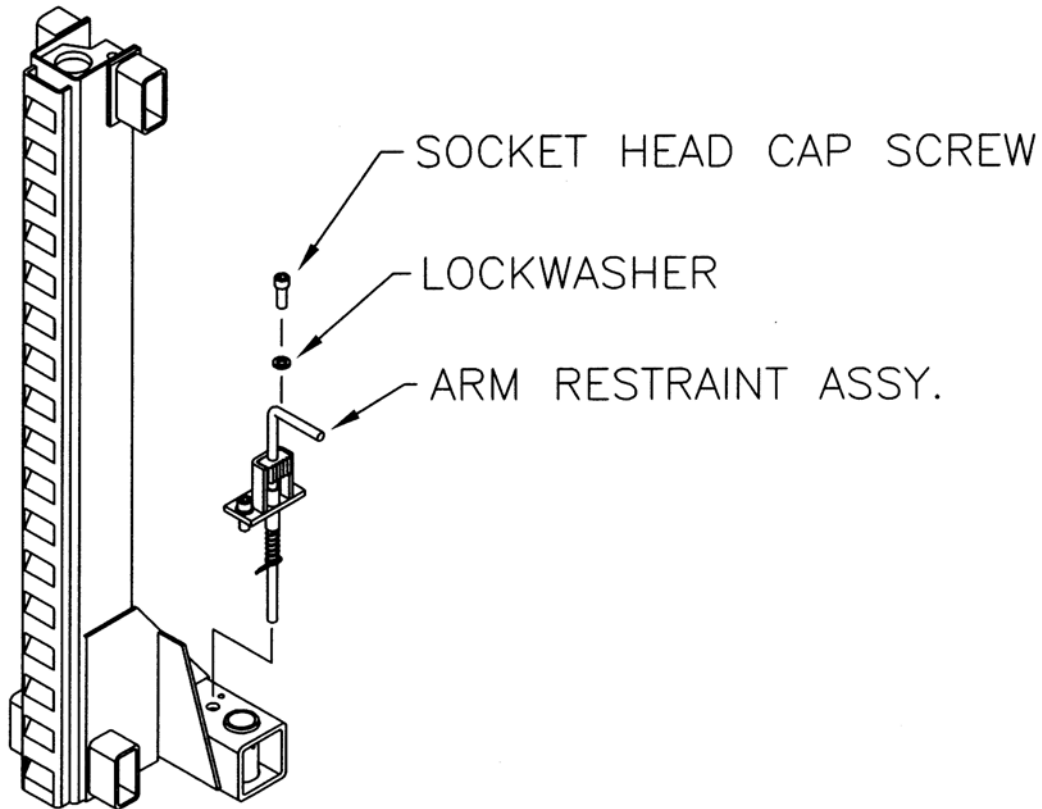

Figure 6 – Arm Restraint Installation
Using two (2) 3/8"-16UNC x 1" LG. socket head cap screws, and two (2) 3/8" ID lockwashers, install the arm restraint assemblies as shown in **Figure 6**. Before tightening completely, make sure that the arm restraint has full contact with the arm restraint gear by pushing it firmly against the arm.